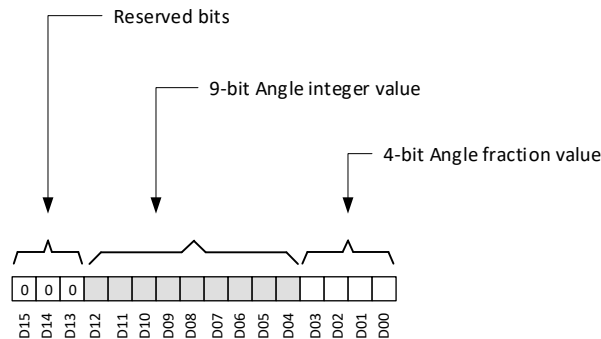

Fig 7-8. Angle Data Definition
The TMAG5170 calculates the angle based off the ANGLE_EN register bit settings. Fig 7-8 shows that the ANGLE_RESULT register stores the angle information in the 13-LSB bits. Bits D04-D12 store angle integer value from 0 to 360 degree. Bits D00-D03 store fractional angle value with a resolution of 1/16 degree. The 3-MSB bits are always populated as b000. The TMAG5170 CORDIC offers angle resolution of 1/4 degree. An external CORDIC may be used if higher angle resolution is required. Use Equation 7 to calculate the angle.
- D_i is the data bit as shown in Fig 7-8.